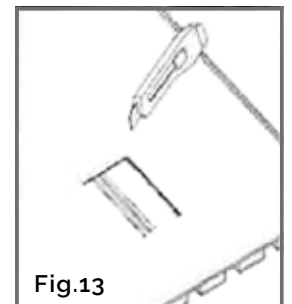

Fig.13
- Use the carpet knife to cut the felt material where the socket will be, ensuring your cuts are straight and clean. ( fig: 13 )